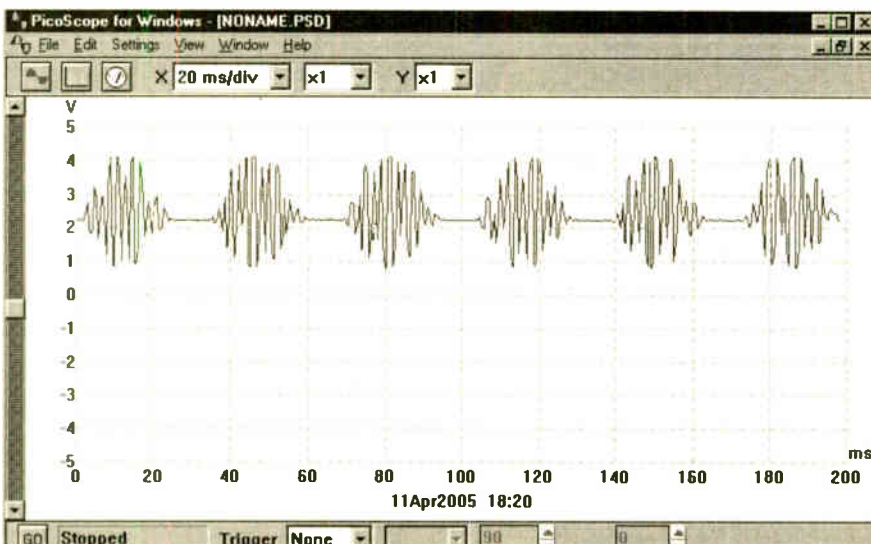

Fig.5. Example of a modulated signal created by the Cybervox. It was produced using the Pico Picoscope for Windows PC interface
- audio waveform moderately modulated by triangular waveform (the similar image shown in Fig.5. was heavily modulated). All the waveforms were recorded using the PicoScope for Windows PC interface module.